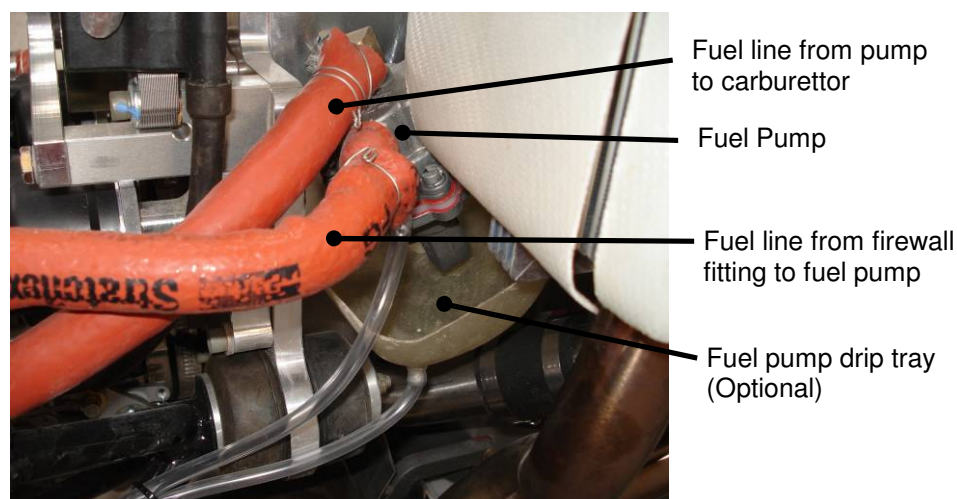

Figure 28. Mechanical Fuel Pump
- Some airworthiness categories also require an additional drip tray be fitted to the fuel pump. This optional tray is shown in Figure 28.
- All hoses forward of the firewall require fire resistant sheathing (visible as an orange covering on the fuel lines in Figure 28 above). Note that wherever possible the sheathing should be extended past the hose clamp. The ends of the sheath must be held in place using safety wire to prevent the sheathing moving and exposing the fuel line.